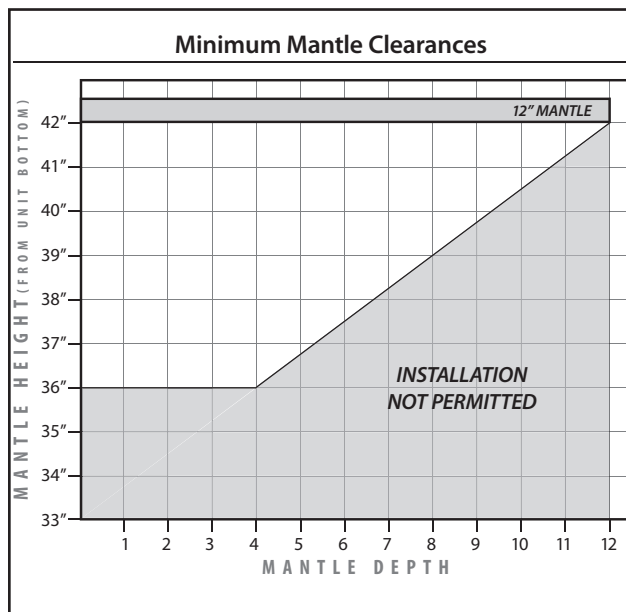

Figure 44: Mantle Clearances.
- A 4" (102 mm) mantel can be mounted at a minimum height of 36" (91cm) from the bottom of unit. (See Figure 44)